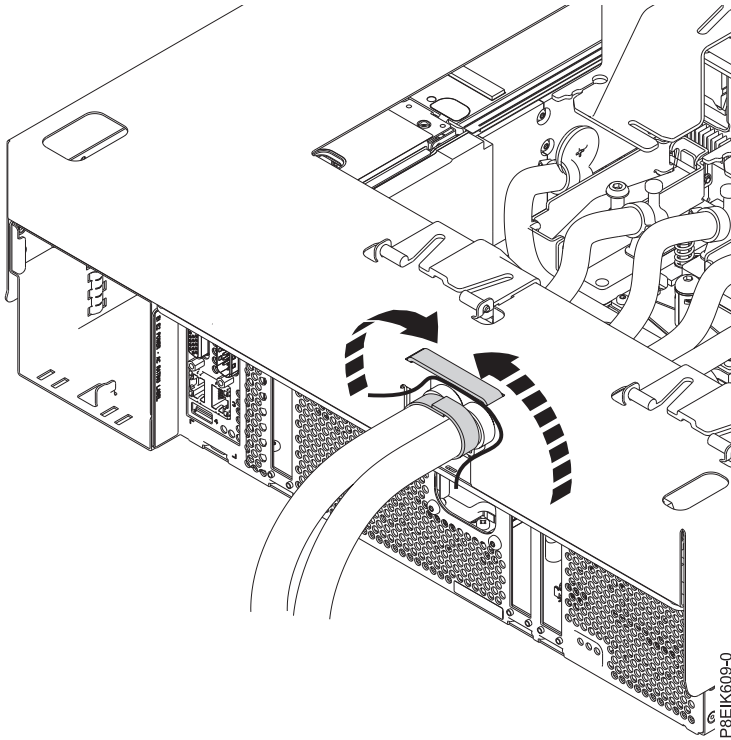

Figure 28. Fastening the water hoses to the carrier
5. Using the closed-loop fasteners, secure the water hoses to the cold plate installation carrier as shown in Figure 28.